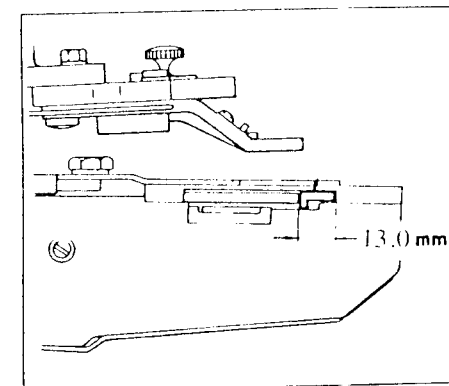

Fig. 6
The standard adjusting value of adjustment is, when the stop-motion is set and the presser foot is completely raised up, the clearance between the thread trimming connecting link (front) ② and the groove surface of the throat plate to be 13.0 mm as shown in Fig. 6.